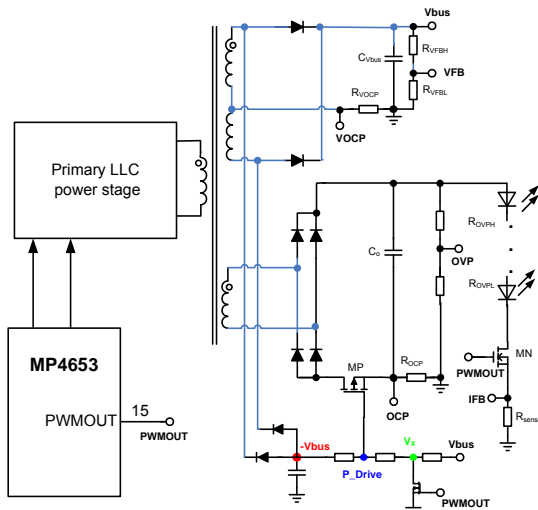
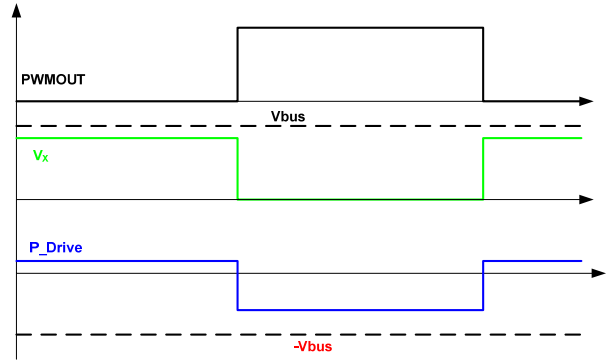

Figure 5A—PWMOUT for the P\_MOS Driver
Figure 5B—Scheme of the PWMOUT Driving the P\_MOS
The PWMOUT signal is also used to control the external P-MOS (MP) for protection, as shown in figure 5A. Figure 5B shows the operating scheme of this driving circuit. A negative voltage source (-Vbus) is generated from the secondary winding of DC bus stage. A pulse waveform at “VX” is generated through the PWMOUT signal. By summing the negative voltage source and VX, a pulse waveform with a negative magnitude is generated on “P\_Drive” (the P-MOS gate) and is used to drive the P-MOS.